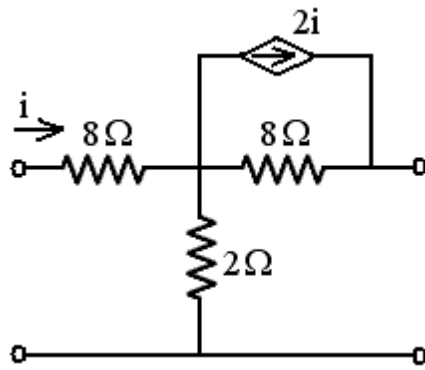

Fig.3
2. Determine the Y – parameters for the two – port network shown in Fig.3 and also find g – parameters. [15]